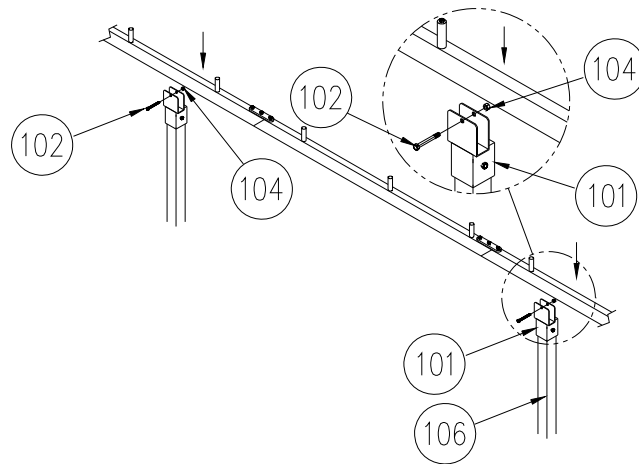

Figure 2-5
4. Refer to **Figure 2-5**. Mount the assembled stringers to top of canopy extension legs on each side of lift. Position the stringers such that the canopy protects the entire length of the boat and fasten in place with hardware shown.